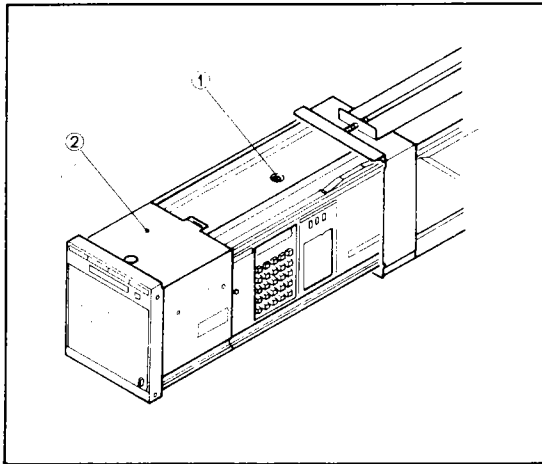

Figure 10-1. Recorder Cover Removal.
- (1) Remove the recorder unit from the recorder unit housing.
- (2) Remove the screw (number 1) located on the top of the recorder unit, and then remove the recorder top cover (number 2) — (see Figure 10-1).